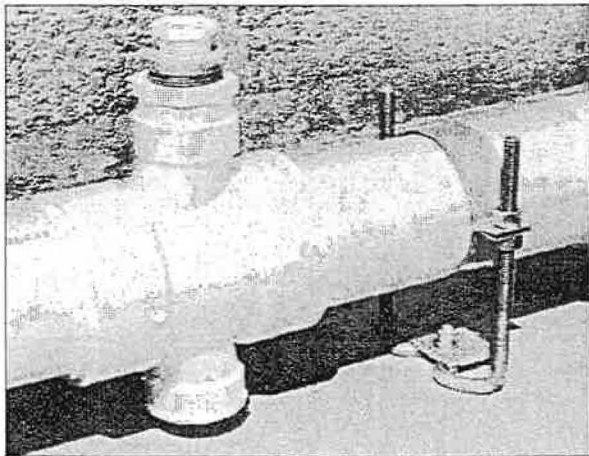

Figure 30B
- The sumps for systems using the raised manifold is attached to an air distributor or drainline section as shown in Figure 30B.